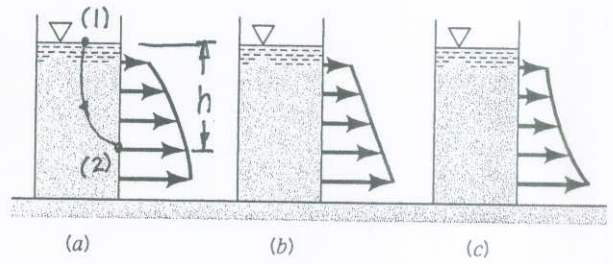

FIGURE P3.36
3.36 Several holes are punched into a tin can as shown in Fig. P3.36. Which of the figures represents the variation of the water velocity as it leaves the holes? Justify your choice.